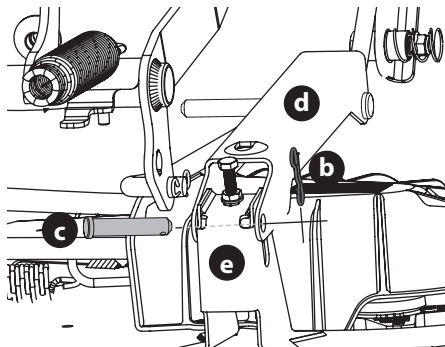

Figure 40
3. Remove the two bow-tie pins (b) from the clevis pins (c) that secure the lift link brackets (d) to the rear deck lift brackets (e) on the deck (Figure 40). Remove the clevis pins (c).